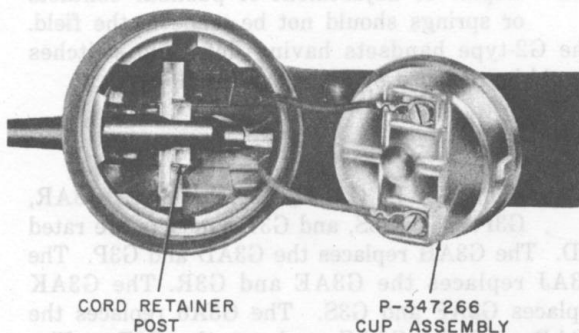
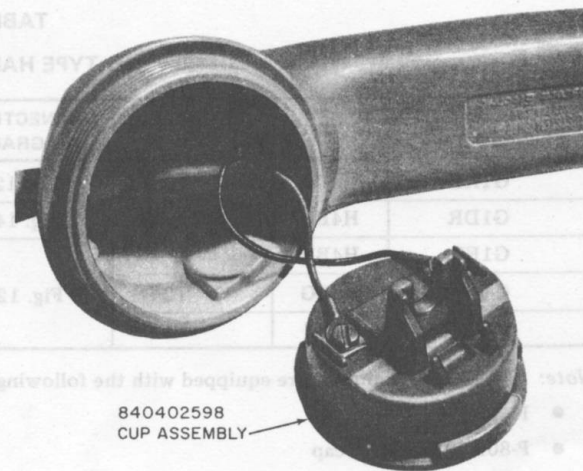

Fig. 5—Early G Series Handset
Fig. 6—Current G Series Handset
2.03 Early G-series handsets were equipped with cord retainer parts in the transmitter cavity (Fig. 5). Current G-series handsets are equipped with transmitter cups having the cord retainer molded on the cup (Fig. 6). The two types of cord retainer arrangements are not interchangeable.